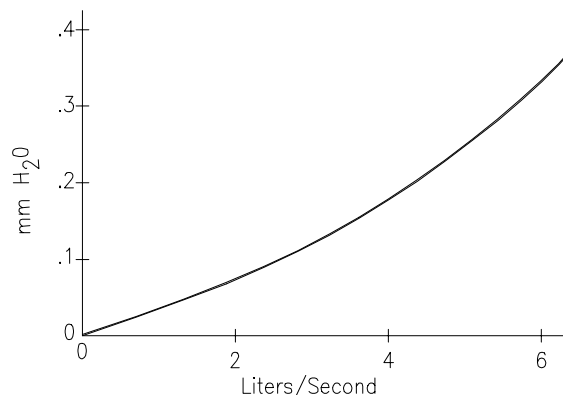

Figure 2-3. Pressure vs. Airflow
2. Establish the relationship between airflow and pressure drop. For a breadboard loaded with typical components (such as ICs, relays, and a few heat sinks), the curve in Figure 2-3 may be used to determine the pressure drop across the module. Determine the pressure drop as the intersection of the curve and the required airflow. For example, if the airflow required is 1.6 liter/second, the pressure drop across a typically populated breadboard will be approximately 0.05 mm H₂O.